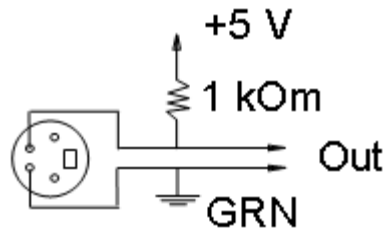

Fig. 23
11. "REM" -«EXT» - remote status connector. Output optoisolated FET switch is on during absence of optical pulse train (*Fig. 23*).